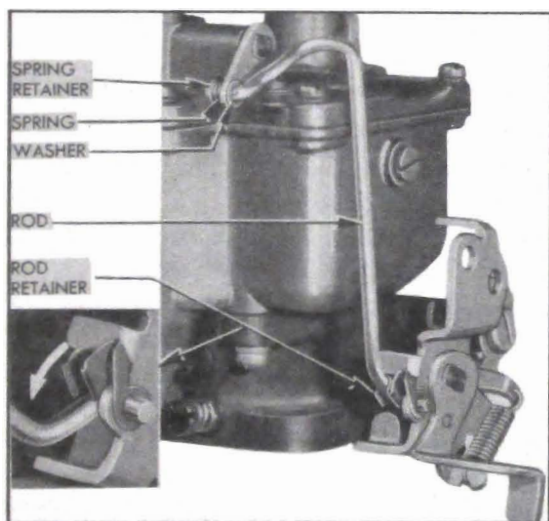

Figure 3-37—Installation of Throttle Connector Rod
20. Place pump connector rod retainer over throttle shaft lever at connector rod hole, insert end of rod through retainer and lever holes, and snap retainer into place on rod. Connect upper end of rod to pump operating countershaft arm, using flat washer on outer side of arm with spring and retainer on inner side. See figure 3-37.